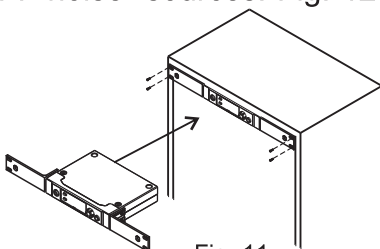

Fig. 11
3. Can be installed into an EIA standard rackmount kits. Fig. 11